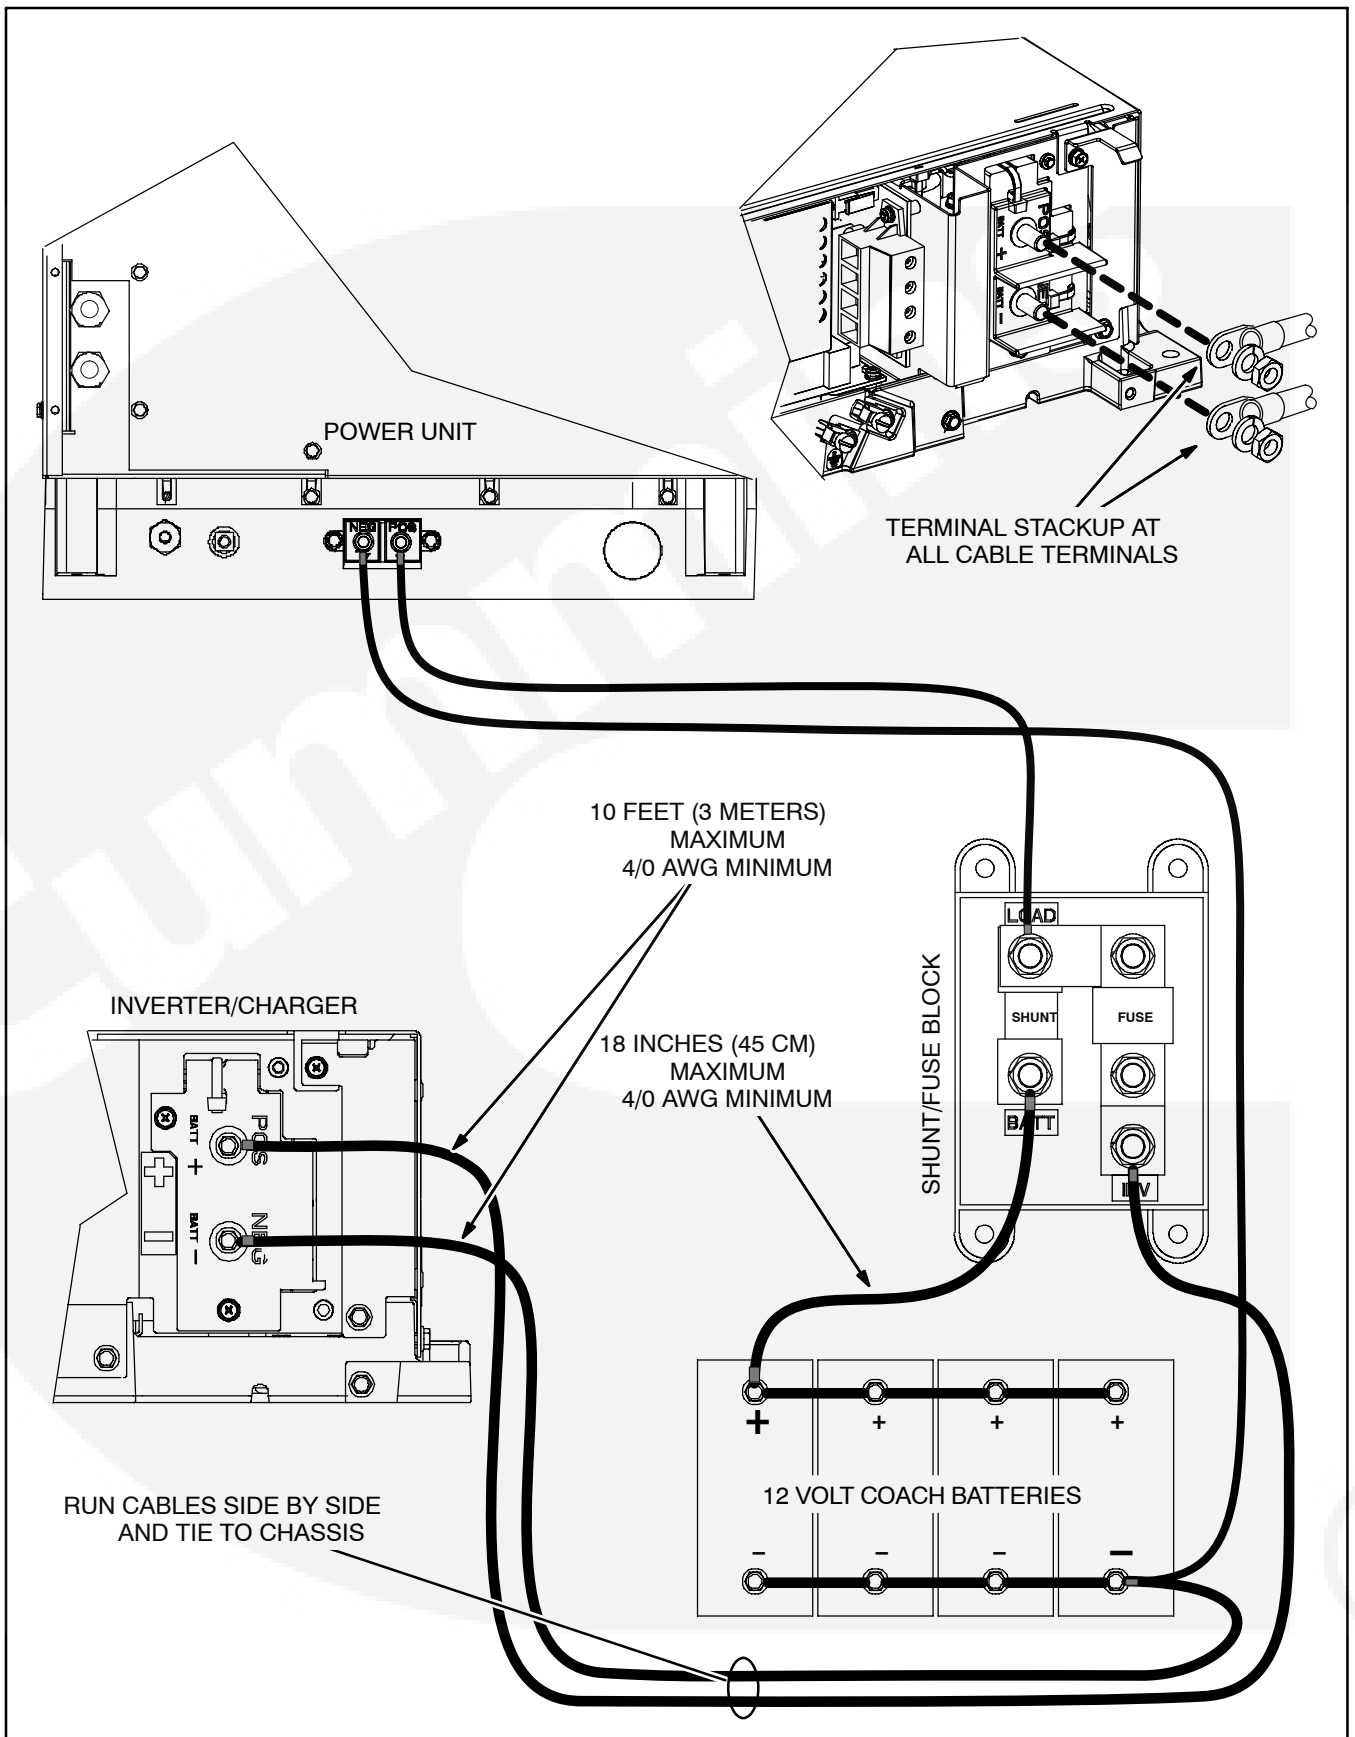

FIGURE 6-1. TYPICAL COACH BATTERY CABLE CONNECTIONS
Figure 6-1 illustrates how to connect *each* Inverter/Charger and the Power Unit to the batteries. Also see CONNECTING TWO INVERTER/CHARGERS in Appendix D for connecting *both* Inverter/Chargers to the batteries. The cables from the two Shunt/Fuse Blocks should be the only cables connected to the positive (+) terminals of the Coach Batteries.
2. Disconnect the Inverter/Charger (Figure 6-1) from the Coach Batteries observing the proper Battery Disconnect Sequence (p. 6-4).